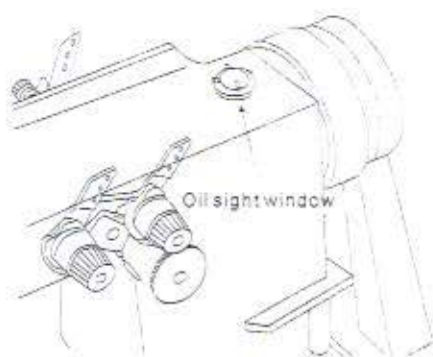

Fig.3
2. Oiling shall be kept on until the oil surface has been brought above the mark "Low" (Fig3)